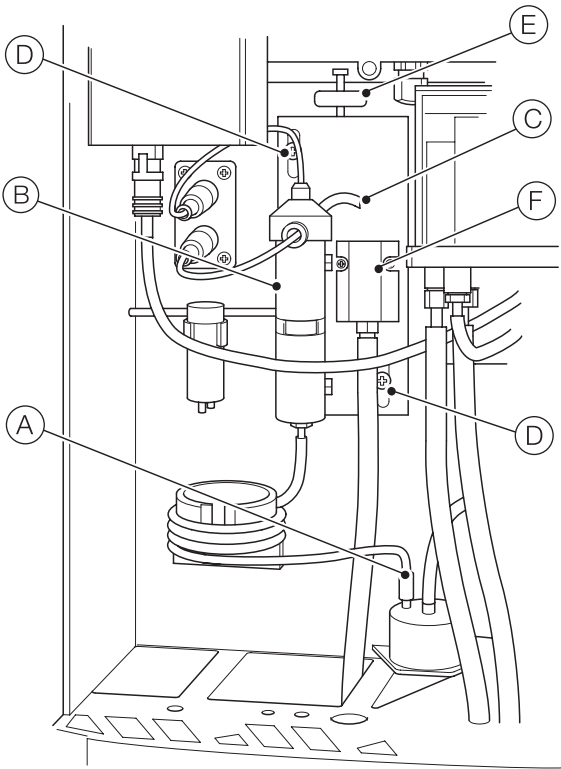

Fig. 4.2 Setting the standard solution flowrate
Referring to Fig. 4.2:
- 2 Referring to Fig. 4.2, rotate the sensor to position the drain tube outlet (C) over the sensor drain tundish (F).